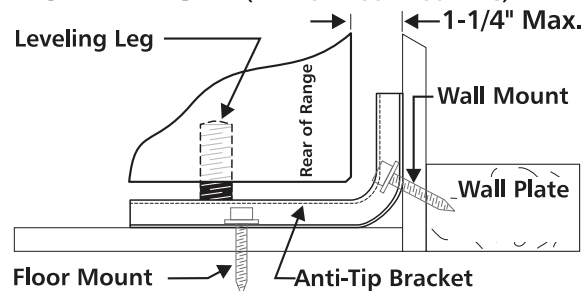
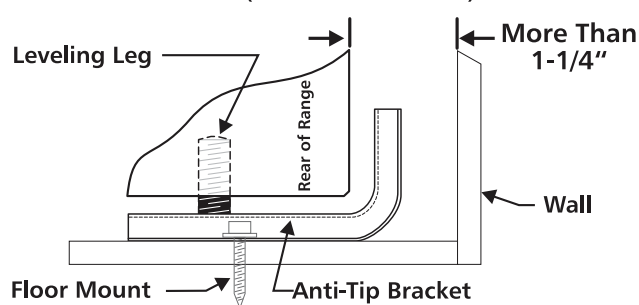
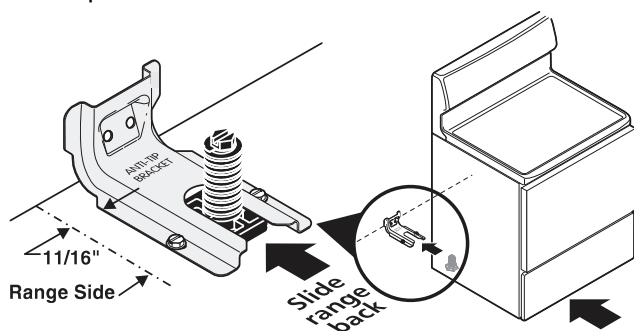

Fig 19
Fig 20
Fig 22
1. **Place the Bracket Using the Template** - Bracket may be positioned on either the left or right side of the range. Refer to Fig. 19, Fig. 20, and Fig. 22 to position the bracket if template is not available.
- If rear of range is against wall or no further than 1-1/4" from wall when installed, you may use the wall or floor mount method (Fig 19).
- For wall mount (Fig. 19), locate the bracket by placing the back edge of the template against rear wall and the side edge of template on the mark made referencing the side of the range. Place bracket on top of template and mark location of the screw holes in wall. If rear of range is further than 1-1/4" from wall when installed, attach bracket to the floor.
- For floor mount (Fig. 20), locate the bracket by placing back edge of the template where the rear of the range will be located. Mark the location of the screw holes shown in template.
- If molding is installed and does not allow the bracket to fit flush against wall, remove molding or mount bracket to floor (Fig. 20).
- Level & Position Range** - Level range by adjusting the (4) leveling legs with a wrench. Note: A minimum clearance of 1/8" is required between bottom of range and leveling legs to allow room for bracket. Slide range back into position (Fig. 22). Remove lower panel or storage drawer to visually check that rear leveling leg is inserted into and fully secured by the bracket. For models with a warmer drawer or broiler compartment, grasp the top rear edge of the range and carefully attempt to tilt it forward.